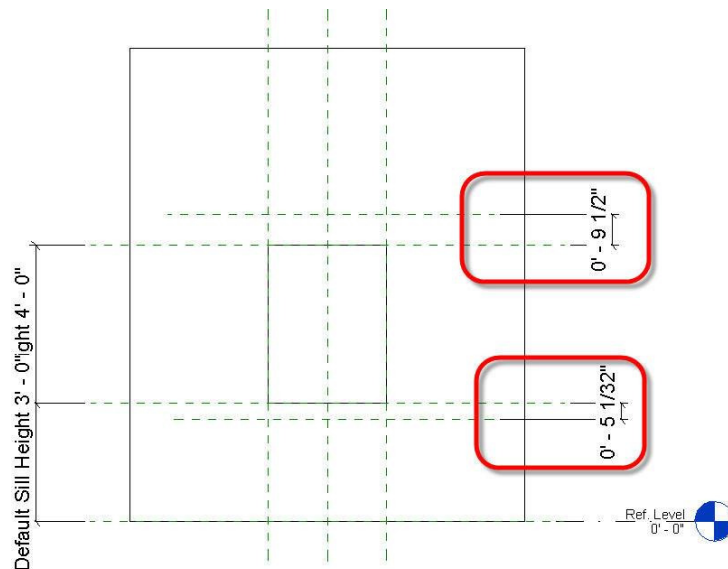

Figure 19. Dimensioning the sill and lintel Reference Planes.
11. Create the aligned dimensions shown in Figure 19. Again, make sure that you dimension to the Reference Planes and not actual geometry.